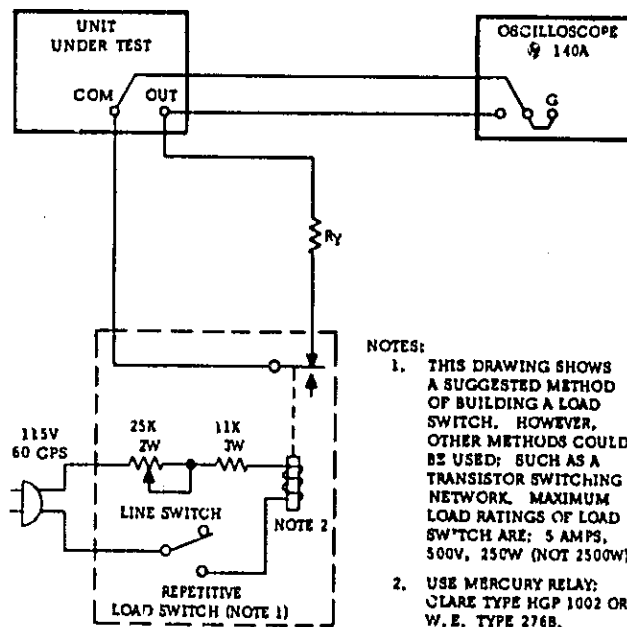

Figure 5-5. Transient Response, Test Setup
| Repetitive Load Switch       | Rate: 50-400 Hz, 2 $\mu$ sec rise and fall time.                                | Measure transient response                    | See Figure 5-5               |
a. Connect test setup shown in Figure 5-5.